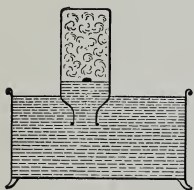

Fig. 4.
(A) 1. Pin a small piece of phosphorus to the piece of charcoal and float this on the water in the large jar (Fig. 4). Light the phosphorus with a hot glass rod and then quickly cover it with the inverted wide-mouthed bottle, keeping the rim of